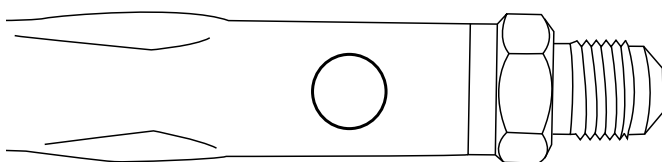

Fig. 3 LP gas setting; air shutter sleeved removed.
Step 6: After the main burner orifice and brass fitting is removed then slide the air shutter sleeve off the burner tube and expose the hole for the LP gas (Figs. 3 & 4).